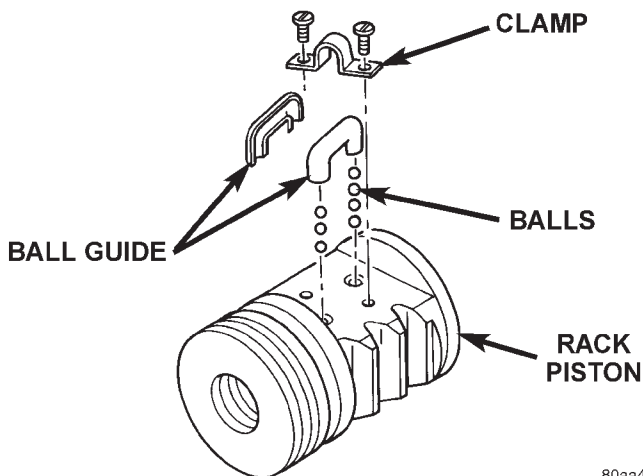

Fig. 22 Rack Piston
- (7) Remove the rack piston and tool together from housing.
- (8) Remove tool from rack piston.
- (9) Remove rack piston balls.
- (10) Remove clamp bolts, clamp and ball guide (Fig. 22).